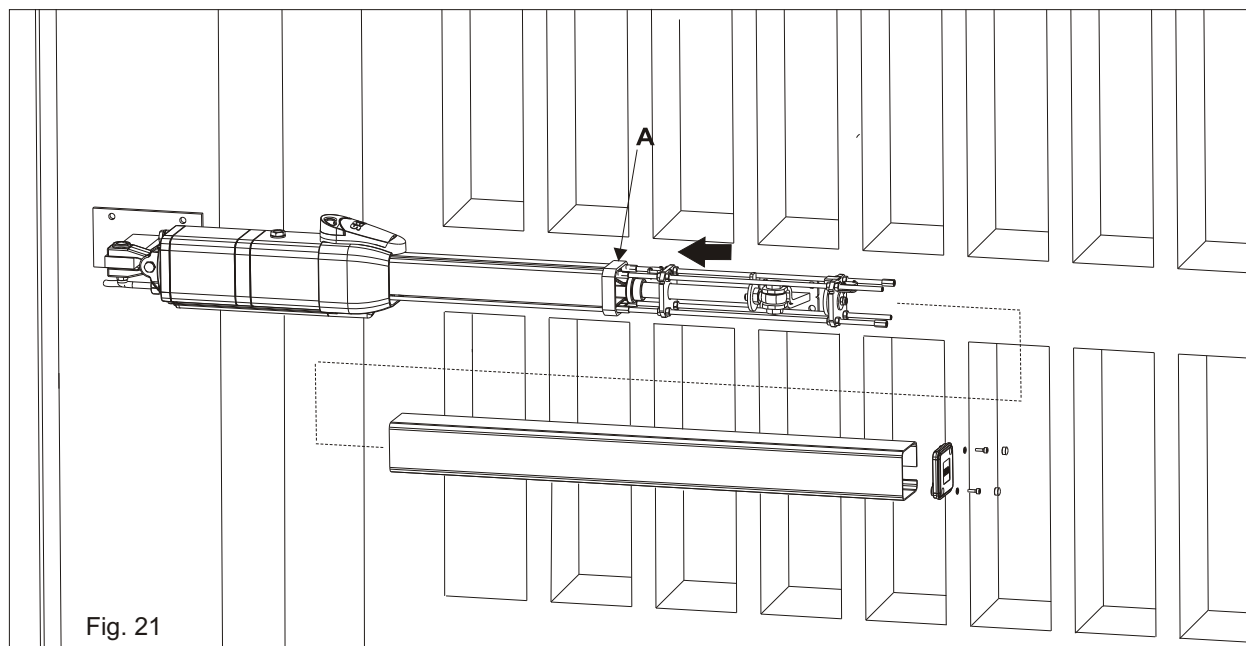

Fig. 21
Make sure to have inserted the antivibration plastic frame (A) before inserting the rod cover extrusion (Fig. 21)